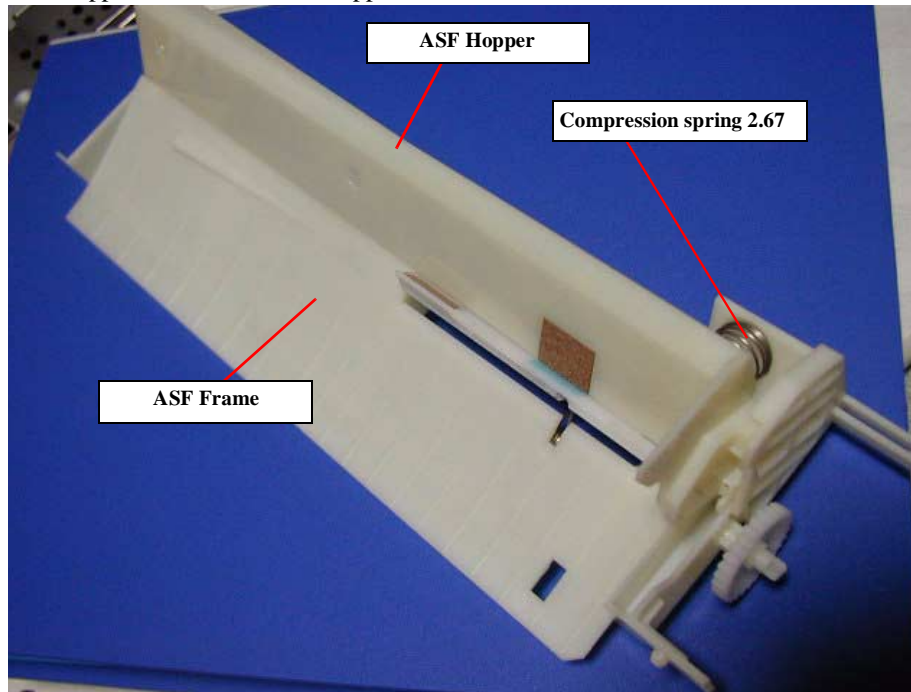

Figure 4-57. Removing the Compression spring 2.67
- Make sure that the each tip of the Torsion spring 25.7 is set in the slot of the Pad holder and ASF frame. Refer to Figure 4-57.